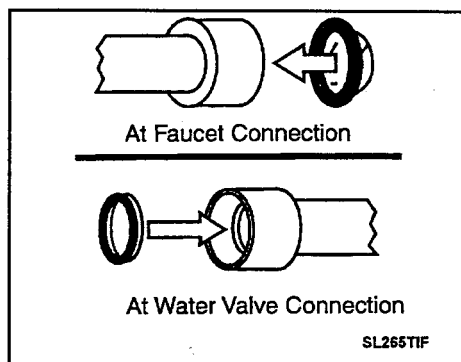

Figure 1-8
11. Connect inlet hoses to water supply using screen washers at faucet connections, with the domed plastic screen facing the faucet (*Figure 1-8*). Tighten hose connections by hand until snug. Then, turn another 2/3 of a turn with the pliers.